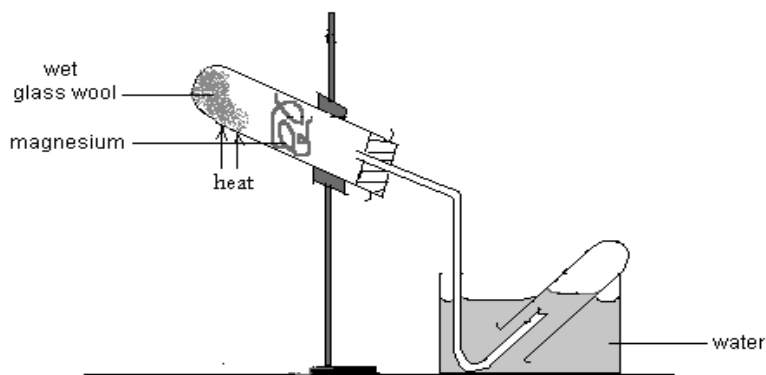

Figure 8.2: Preparation of hydrogen gas
3. Fit with a coke carrying a glass tube and put a test tube full of water at the other end of the tube as shown in Figure 8.2.